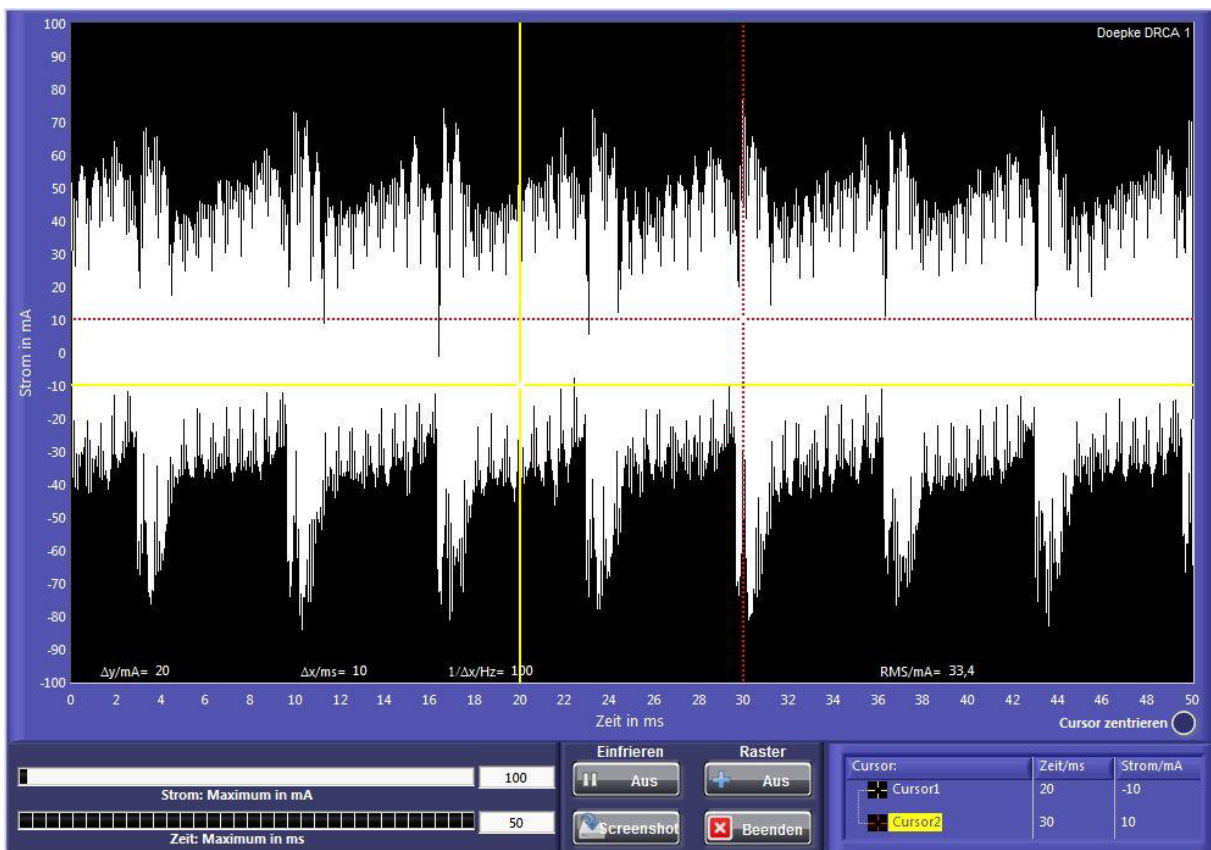

Figure 2 EV charging leakage current Mode 2
**Example 2 Leakage Current:** The leakage current displayed in Figure 2 is for one of the common small electric vehicles, using a Mode 2 charging cable connected to 230 V socket, charging current 10 A @ 43 % charge level. In this example you can see significant distortion to the 50Hz sinewave. This is due to high frequency leakage current components, generated by the particular charging technology incorporated in this model of vehicle.